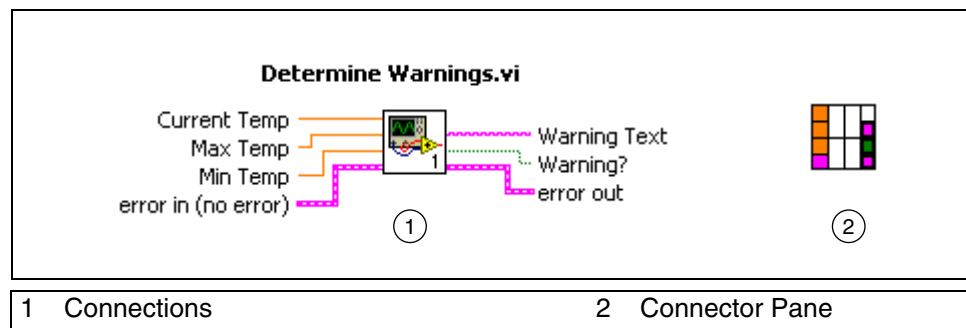

Figure 6-7. Connector Pane Connections for Determine Warnings VI
4. Connect the inputs and outputs to the connector as shown in Figure 6-7.
- Continue wiring the connector pane until all controls and indicators are wired, and the **Context Help** window matches that shown in Figure 6-7.